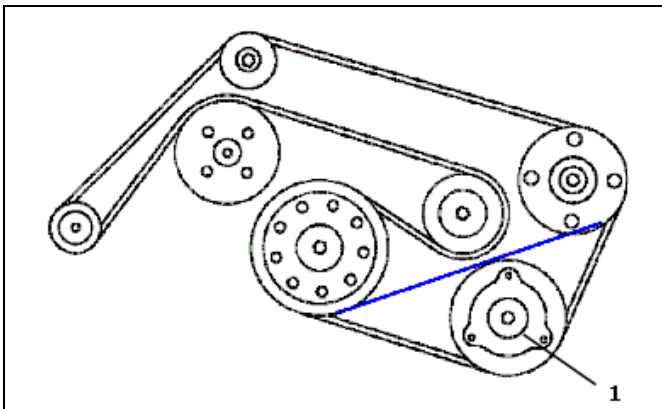

Figure 1
2. Install poly-V-belt part number A011 997 96 92 on vehicles with M112 / M113 engines or install poly-V-belt part number A011 997 04 92 on vehicles with M272 / M273 engines. With the shorter belt installed, the A/C compressor is not driven by the belt. The A/C compressor pulley is bypassed (Figure 1, 1). Route the rest of the belt the same way as the original belt (Figure 1).